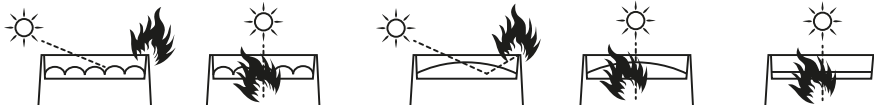

Figure 2. Lenses can focused sunlight and strong light, presenting a risk of fire and damage to the fixture. Shield or shade the head if necessary.
**WARNING!** Position or shade the head so that the front lens will not be exposed to sunlight or any other strong light source from any angle - even for a few seconds. See Figure 2. The 17R MOVING HEAD BEAM IP65 lens can focused the sun's rays, creating a potential fire hazard and causing damage.